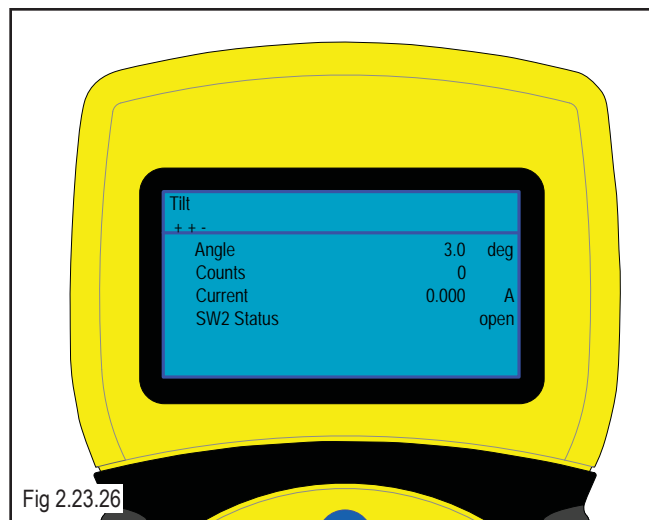

Fig 2.23.26
3. If using the HHP, select Monitor, then QMAC Actuators. Under QMAC Actuators, select the actuator to be tested (i.e., Tilt). (fig2.23.26)